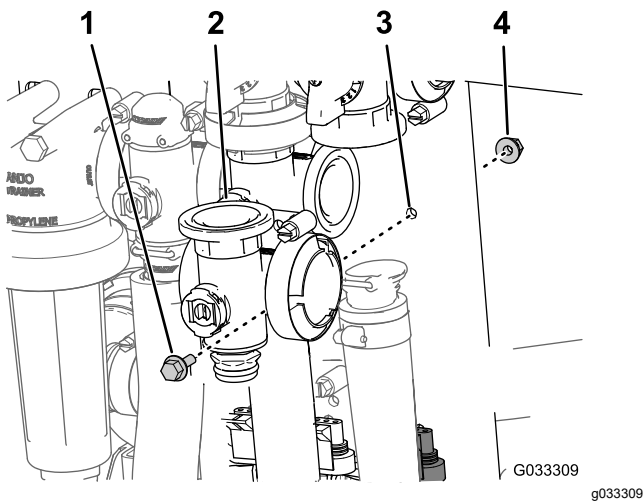

Figure 72
3. Remove the flanged-head bolt and flanged locknut that secures the master-section valve to the valve mount and remove the valve manifold from the machine (Figure 72).